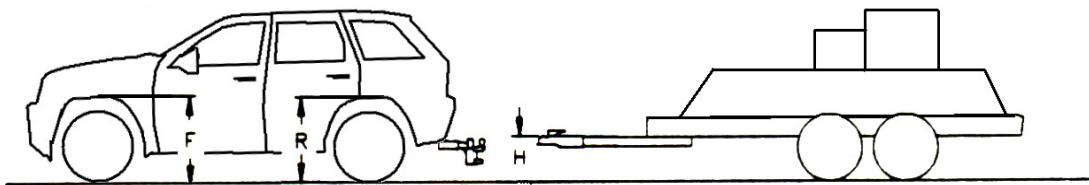

Figure 3
3. Measure and record uncoupled height on front and rear wheel openings to pavement and level trailer coupler height. See figure 3.